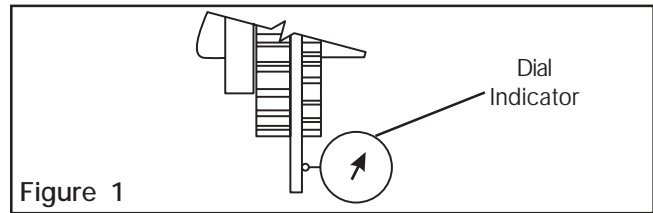

Figure 1
**NOTE:** Runout is minimized if a dial indicator is used as the pull-up bolts are tightened. Place contact tip of the Dial Indicator on the machined surface of the Rotor to measure runout. Runout should be less than 0.254-0.381 mm [0.010-0.015 inches] (See Figure 1).